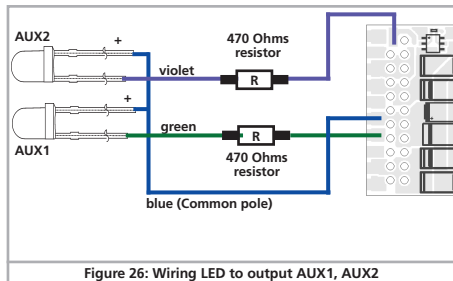

Figure 26: Wiring LED to output AUX1, AUX2
**!** If LEDs are installed (also refer to Fig. 26), then a resistor must be wired in series with the LEDs. It should have a rating of between 470 Ohms and 2.2 kOhms. Running the LEDs without this resistor will lead to their destruction!